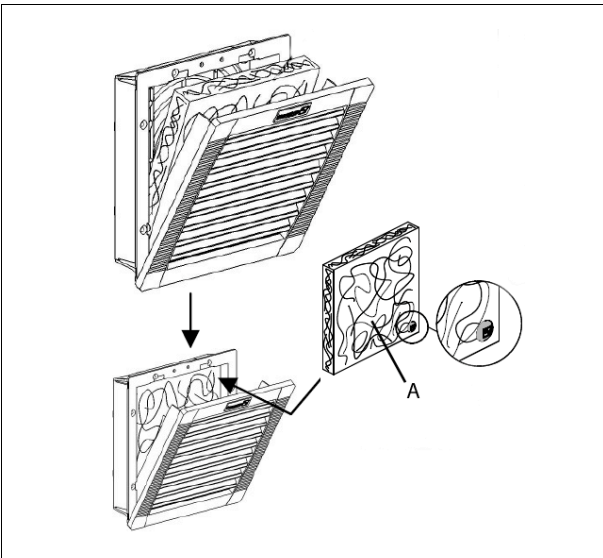

Fig. 23
- Insert the new filter pad into the louver grille. Ensure that the smooth side (-A- Fig. 23) of the filter pad faces the air inlet side.